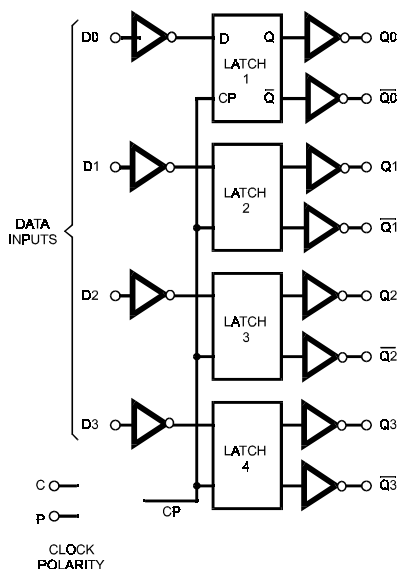

Fig.1a. Internal logic diagram for the HEF4042 (Philips Semi). Note the CP signal cannot be accessed externally.
The clock signals for all four latches are connected via an exclusive-NOR function (XNOR) which has two inputs. These inputs can be interpreted as the clock (C) and polarity control (P) for the clock (see Fig. 1a). Philips' 4042 data sheet describes them as Enable 0 (E0) and Enable 1 (E1). In fact the data sheet includes a function table (Table 1) which outlines the logical operation of this chip.